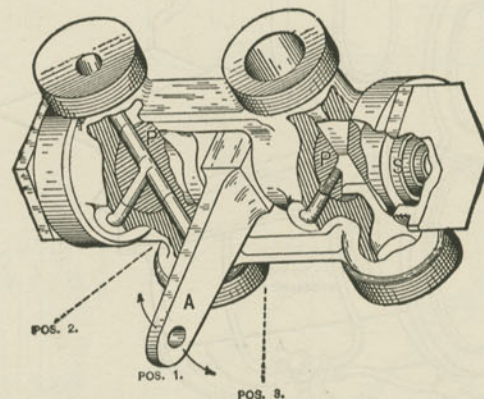

Fig. 342. Baldwin (Vauclain) Combined Starting-Valve and Cylinder-Cock.
A. As shown in Figs. 342 and 343, there is a casting in which are two taper plugs, *P, P*, one controlling the H. P. cylinder cock and the steam for starting, and the other controlling the L. P. cylinder cock. These plugs are held in place by springs *S* and controlled by an arm *A* operated by a lever in the cab.
In position 1 of the lever, as in Fig. 342, the starting valve is open to admit live steam to the low-pressure cylinder, and the cylinder cocks are open to the atmosphere.
A. As shown in Fig. 342, when the valve is in starting position, live steam passes across from that end of the H. P. cylinder which is receiving steam from the boiler to the other end of the same cylinder, and thence through